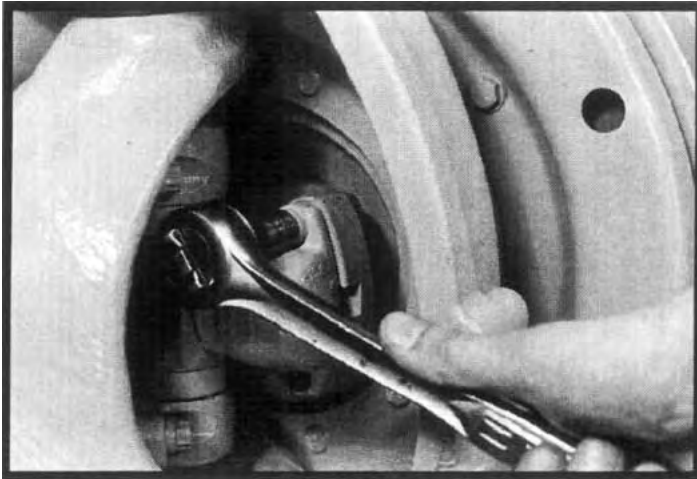

Figure 23
2. Remove all eight 12-point cap screws which secure the universal joint to the axle shaft and yoke shaft. Pry the joint away from the shafts and remove. See Figure 23.